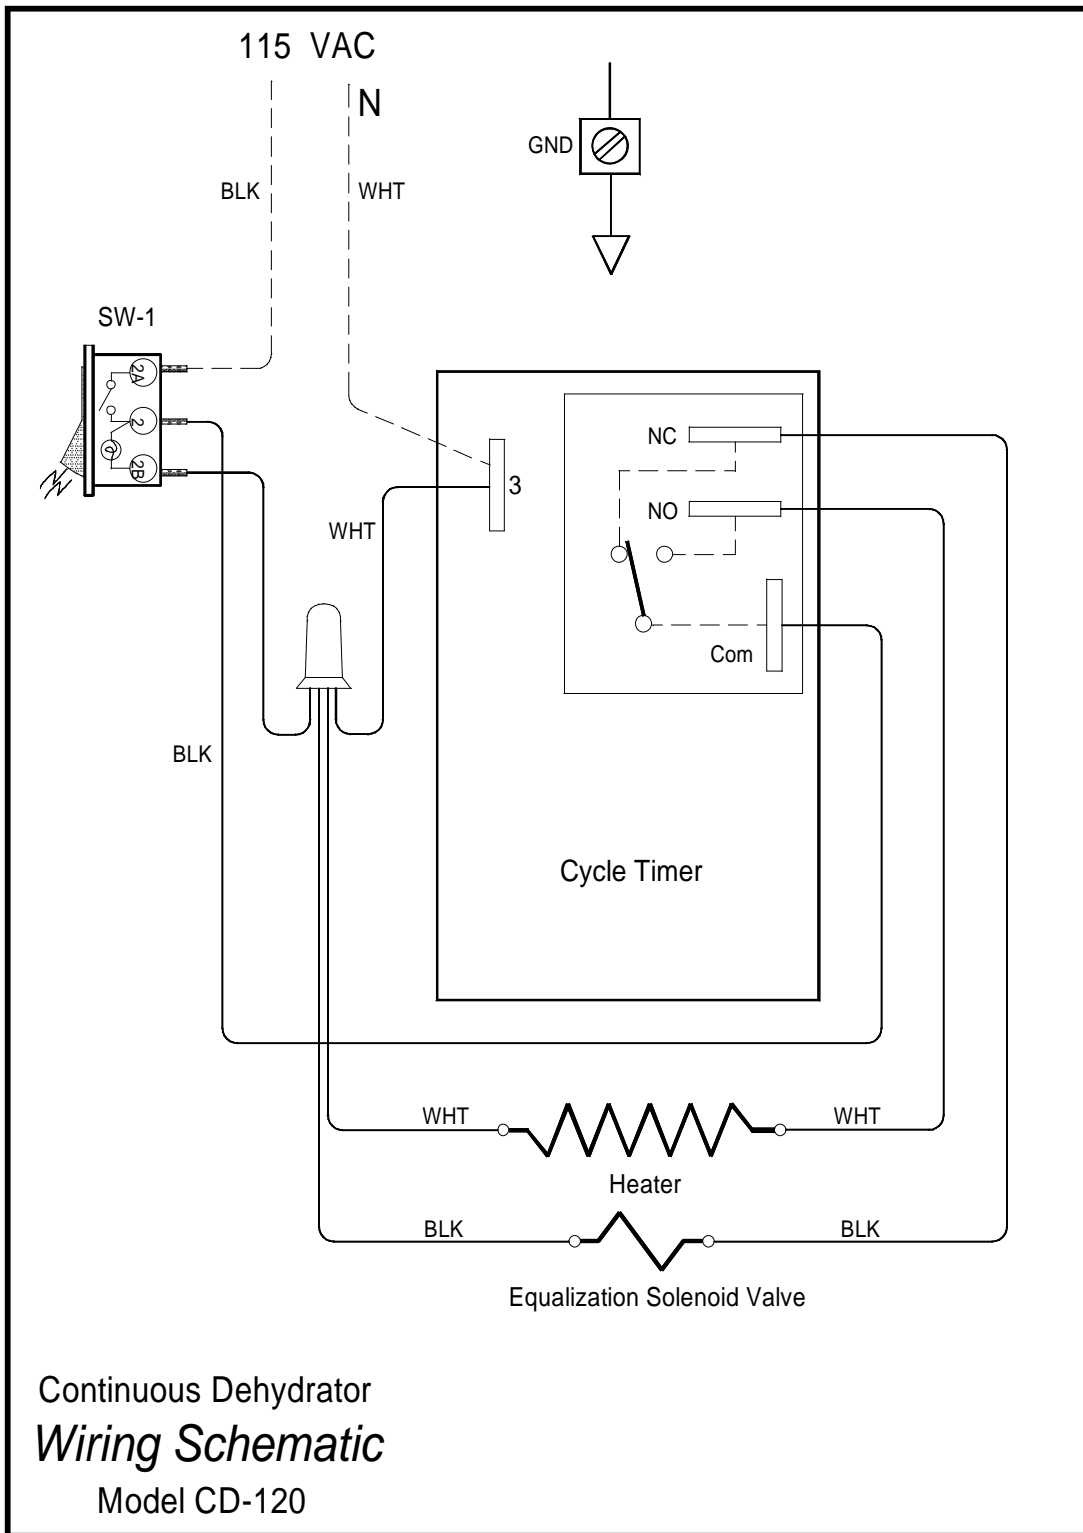

Figure 2
- 1) Refer to Wiring Schematic (See Figure 2 on page 10). Using a ¼" push-on terminal connect 120 Line to Power switch SW-1.